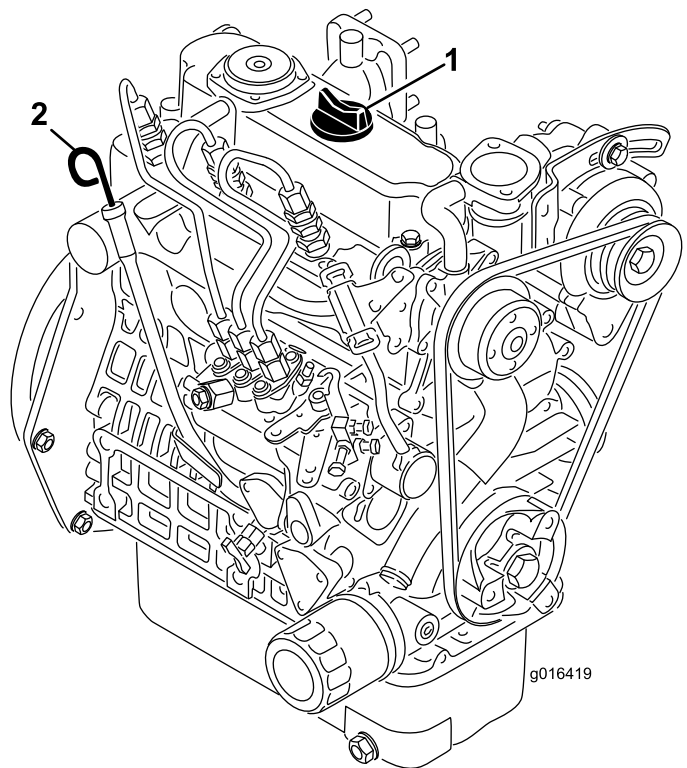

Figure 33
2. Remove the dipstick and wipe it with a clean rag (Figure 33).